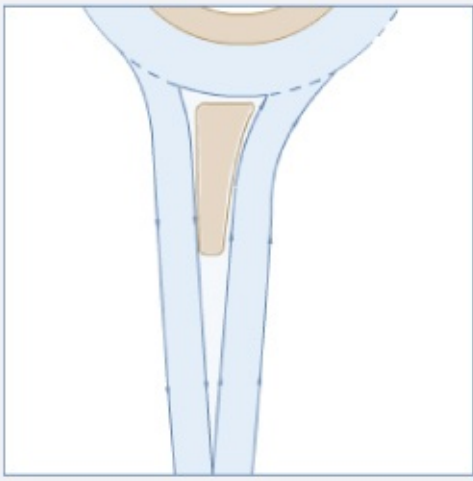

Figure 10.63 Roundabout Islands parameters
9. In the Create Roundabout – Islands screen (see Figure 10.63), again set Predefined Parameters To Import to $R = 75$ ($R_g = 25\text{m}$).